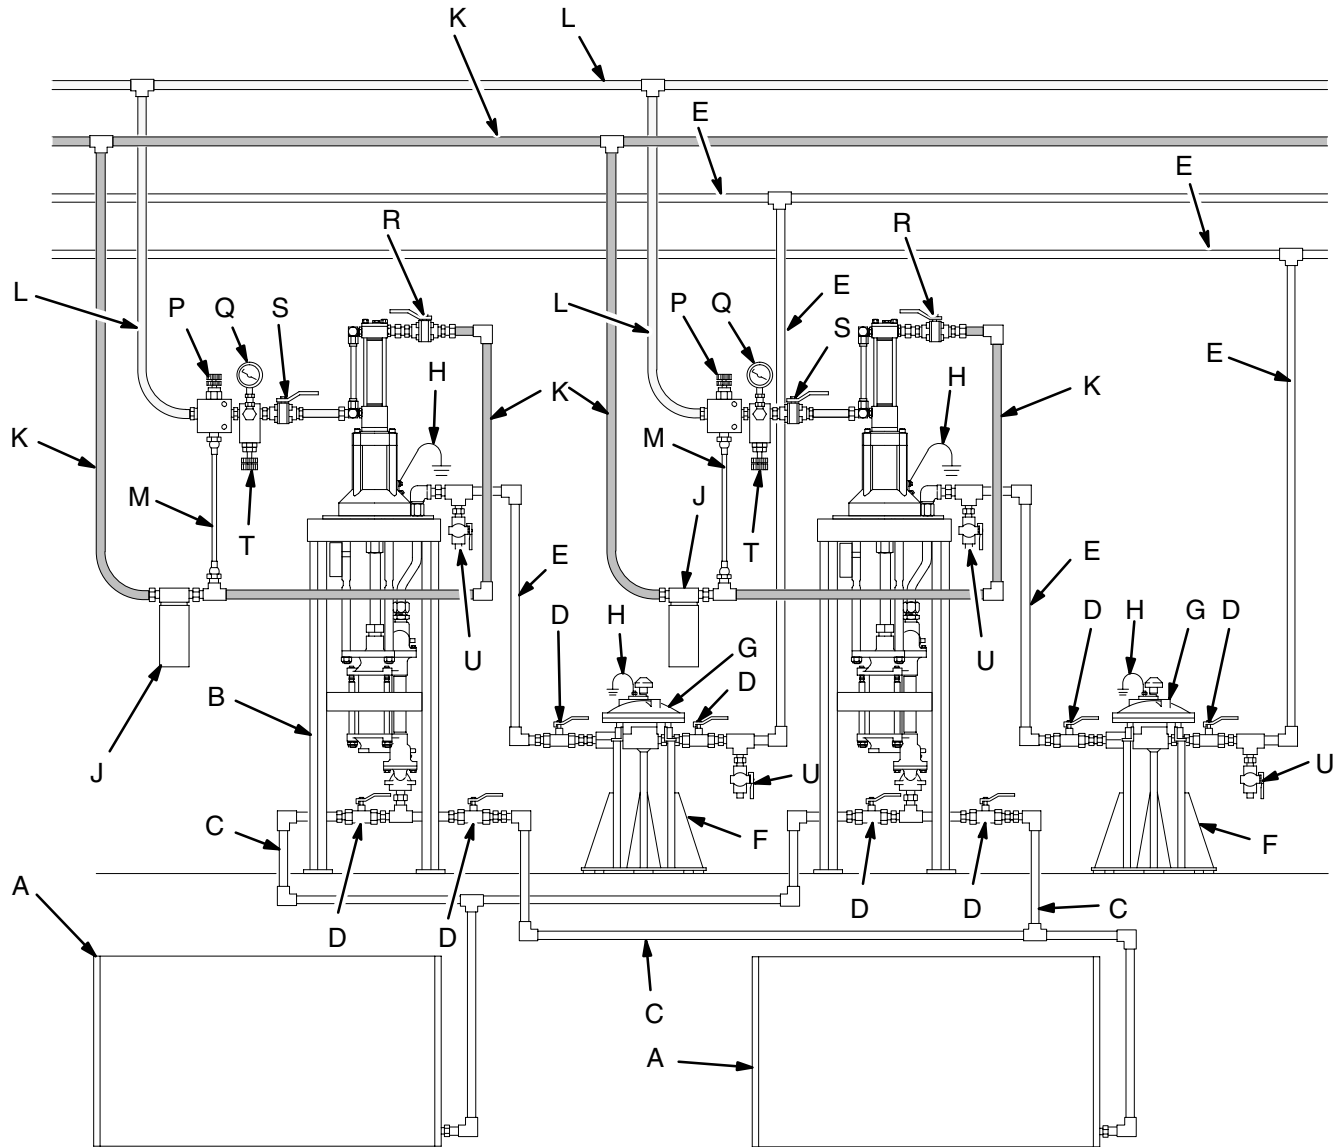

Fig. 5
1. The supply line shutoff valve (S) isolates the motor when servicing the system. See Fig. 5.
2. The hydraulic fluid pressure gauge (Q) monitors the hydraulic oil pressure to the motor. This helps avoid overpressurizing the motor or displacement pump.
3. The pressure- and temperature-compensated flow control valve (T) prevents the motor from running too fast, which can damage it.
4. The pressure reducing valve (P) which has a drain line (M) running to the return line (K), controls the hydraulic pressure to the motor.